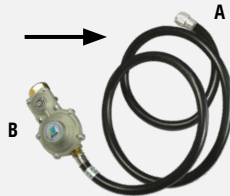

Fig. 1
- 6 Connect the LPG hose to the LPG input on the generator control panel (connect end A of a hose to the LPG input on the generator control panel, as shown in Fig. 1).
- 7 Connect the hose end with the reducer to the gas cylinder (connect end B of hose to the gas cylinder, as shown in Fig. 1).